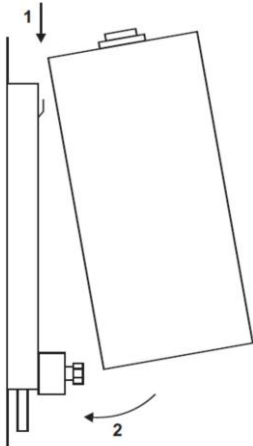

Fig.4
c. Fit the Boiler to the Jig - See Fig. 4